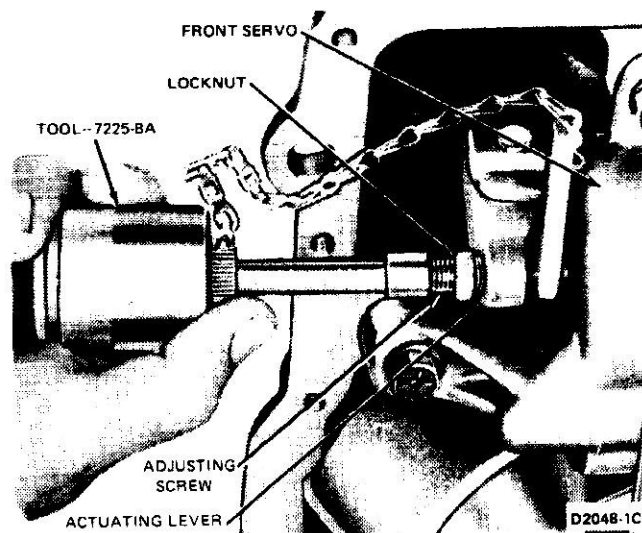

FIG. 4 Adjusting Front Band—Typical
4. Pull back on the actuating rod, and insert the 1/4-inch spacer between the adjusting screw and servo piston stem (Fig. 4). Tighten the adjusting screw to 10 in-lb torque. Remove the spacer and tighten the adjusting screw an additional 3/4 turn. Hold the adjusting screw stationary and tighten the lock nut. Torque lock nut to specification limits as given in Specifications at end of this Part.